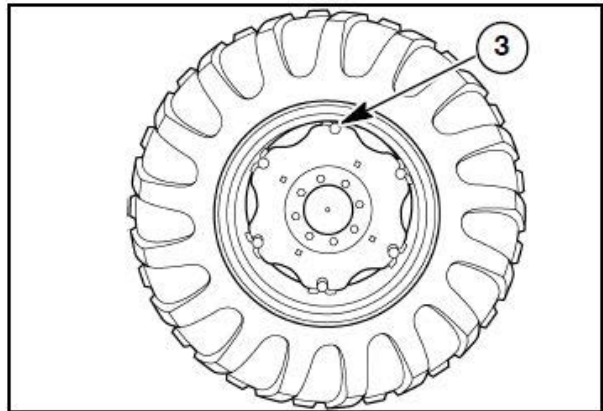

Figure 3-46
Tighten the rim to disc bolts (3) in Figure 3-46, to the specified torque anytime the wheel spacing is changed or bolts have been loosened.